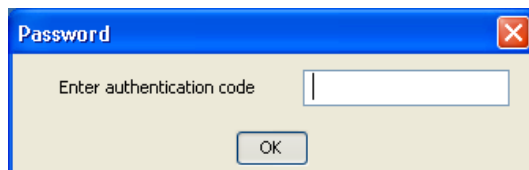

Fig. 4.8 Password Dialog Box
5. When login as an administrator, enter "root" as the authentication code in the Password dialog box at the first time login, and then click **OK**. (See *Figure 4.8*) The authentication code can be changed later in the utility. Only an administrator who has the password can access the notification settings.